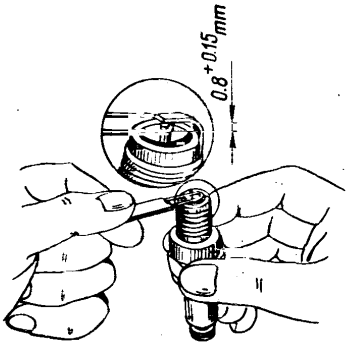

Fig. 25. Checking Spark Plug Gap
2. Keep the spark plugs clean. Check spark plug gap with a feeler gauge (Fig. 25). The gap should be $0.8^{+0.15}$ mm. Adjust the gap by bending the side electrode.